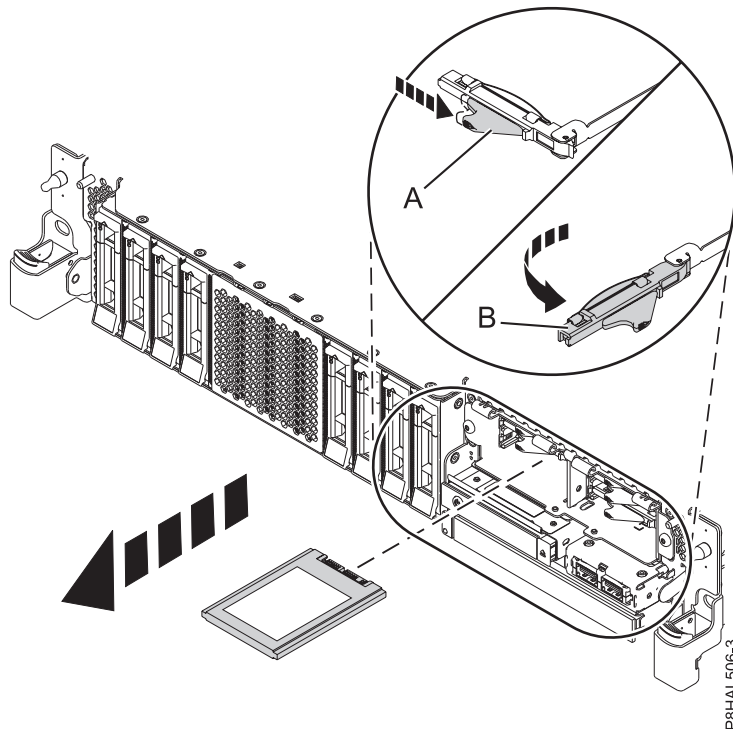

Figure 65. Removing an SSD from an expanded function system
14. When the identify LED turns on solid, unlock the drive bay handle **(B)** by pushing the handle latch **(A)** in the direction that is shown and pulling the drive bay handle **(B)** out toward you, as shown in Figure 65 on page 66. If the handle is not all the way out, the solid-state drive cannot slide out of the system.